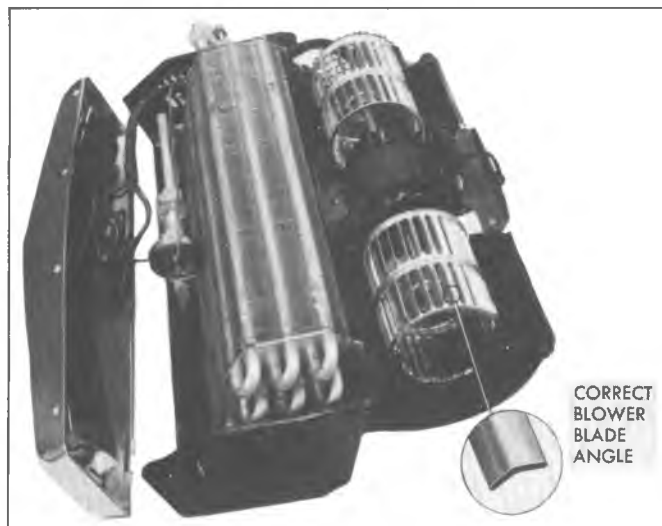

Fig. 98--Blower Assembly (Motor Home Chassis Unit)
#### Removal (Fig. 98)
1. Install the blower wheels on the motor so that the lower blades curve toward the dash panel side of the unit when the motor is placed in the case as illustrated in Figure 98.